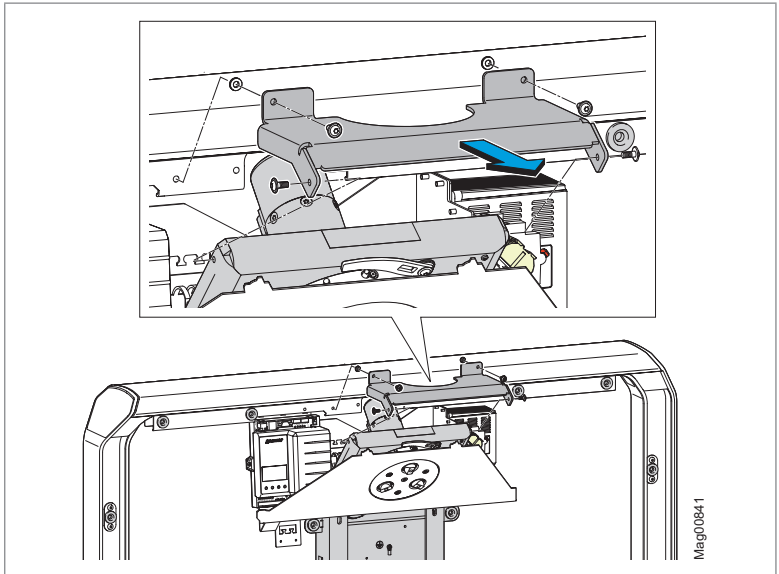

Fig. 22: Disassembly of the holding bracket
5. Disassemble holding bracket. ↗ Page 53, Fig. 22.